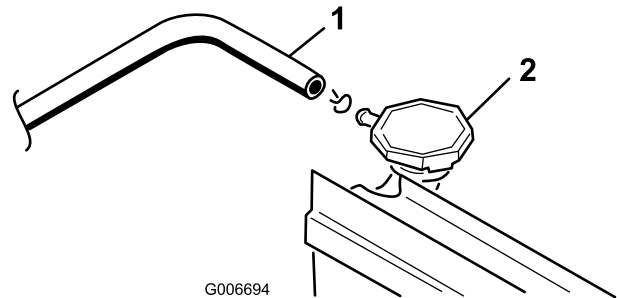

Figure 6
6. Loosen hose clamp securing overflow tube to radiator and slide tube off radiator opening (Figure 6). Plug overflow tube to prevent coolant from escaping.